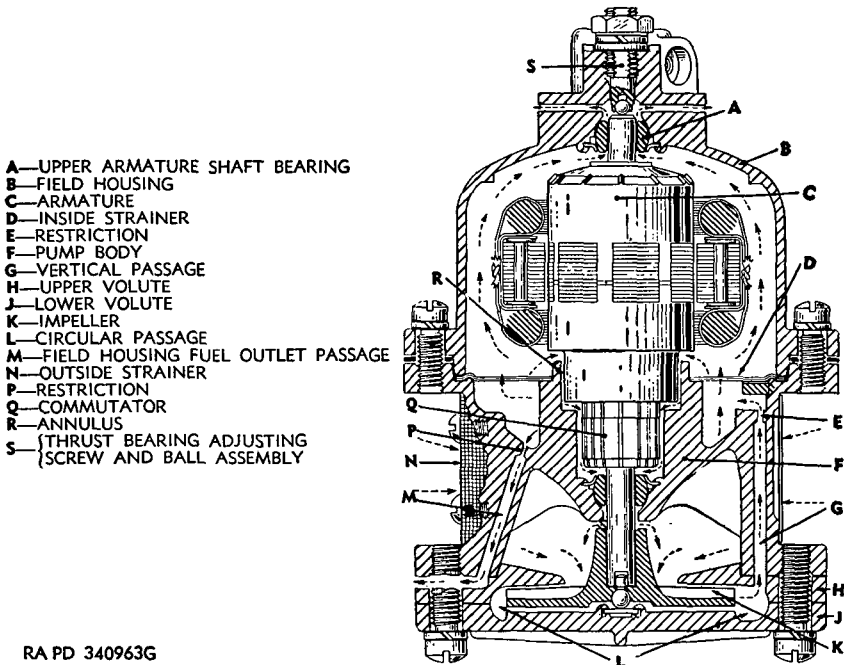

Figure 75. Cooling and lubricating circuit—sectional view through vertical passage.
*b. Cooling and Lubricating circuit* (fig. 75). From the circular passage (L) a vertical passage (G) conducts a small quantity of fuel under pressure through the restriction (E). Part of this fuel passes through the inside strainer (D) into the field housing where it circulates around the armature and upper armature shaft bearing in the manner shown, cooling and lubricating moving parts. Upon returning from the field housing this fuel passes through the restriction (P) and escapes through the field housing drain passages into the tank. The remainder of the fuel that comes through restriction (E) circulates around the commutator and bowl armature shaft bearing eventually escaping either through the commutator drain passages